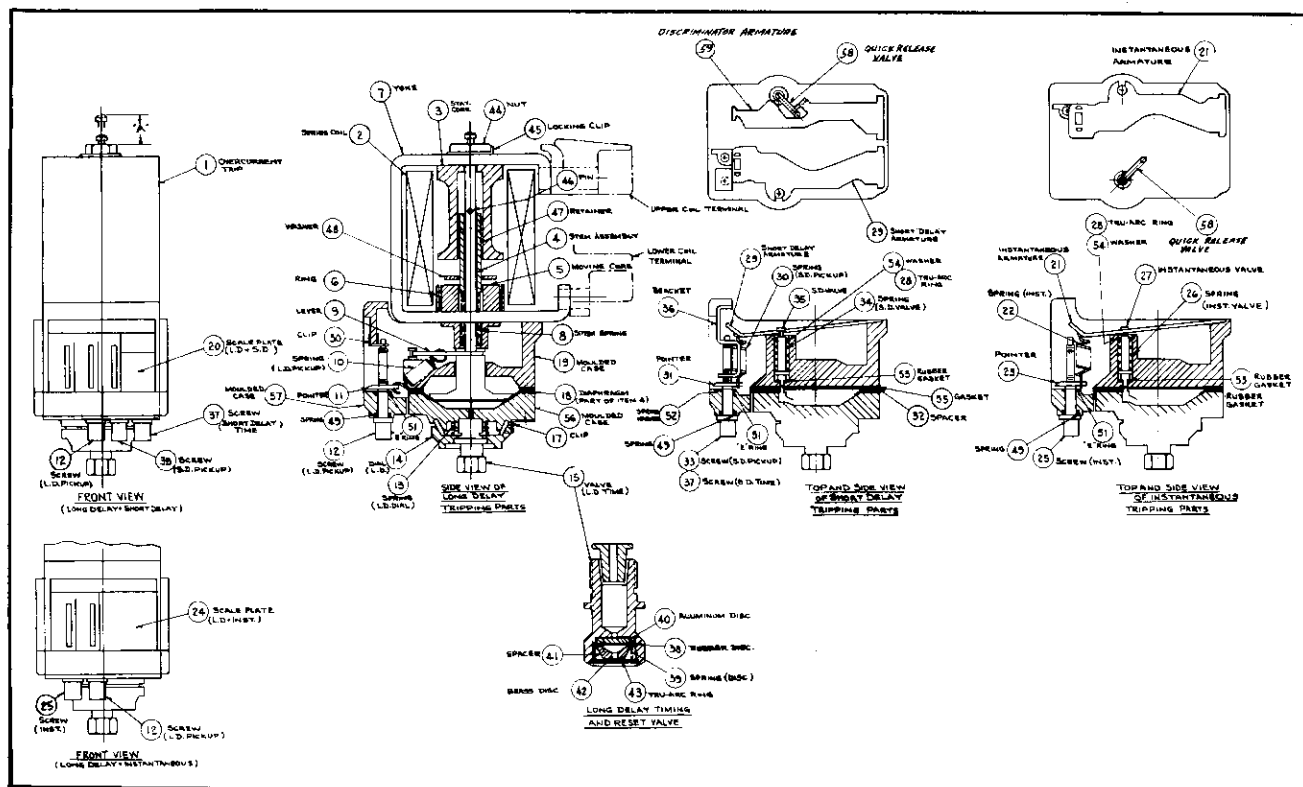
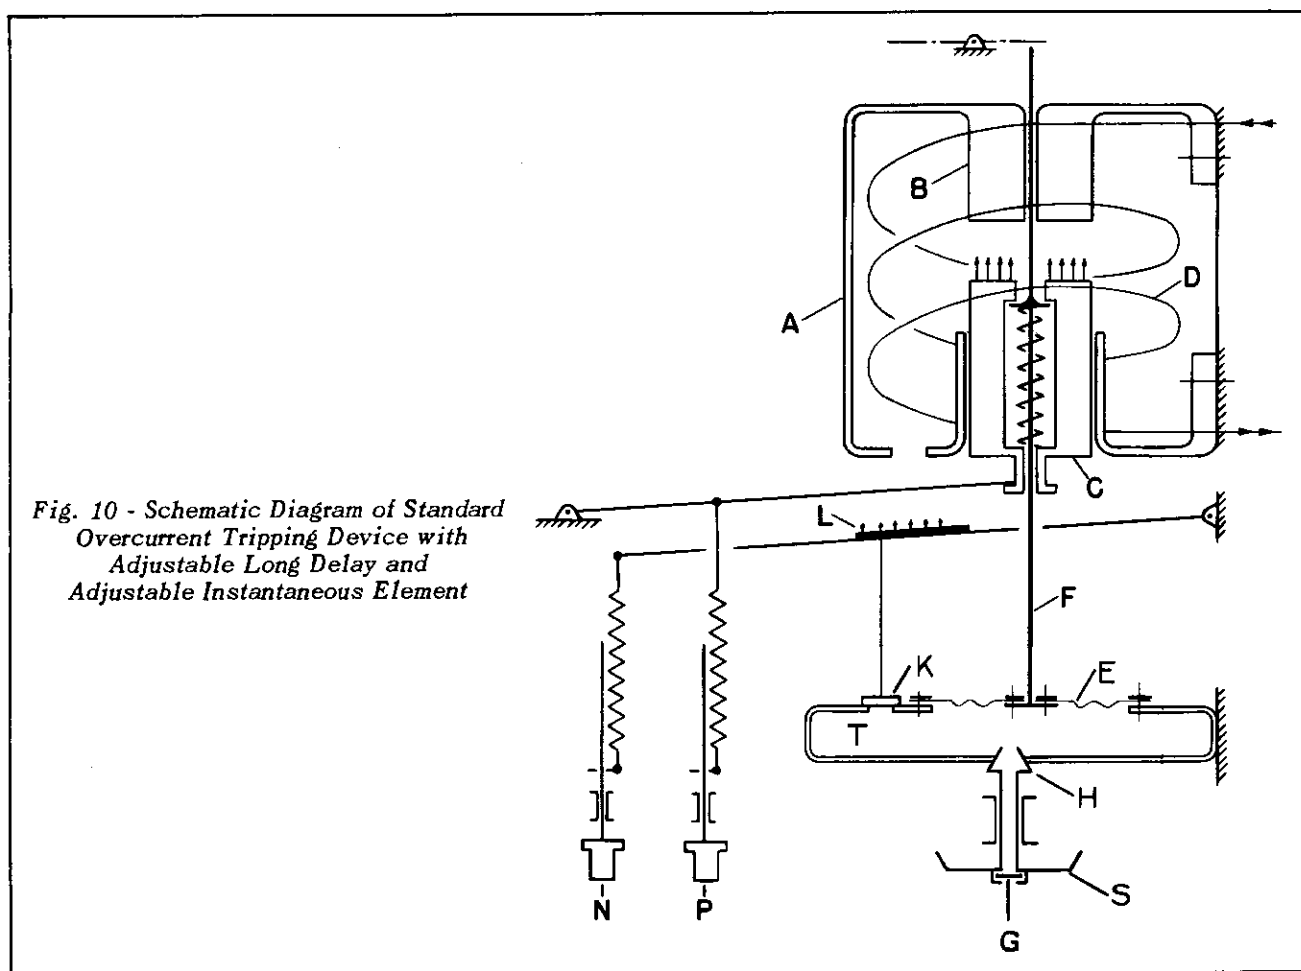
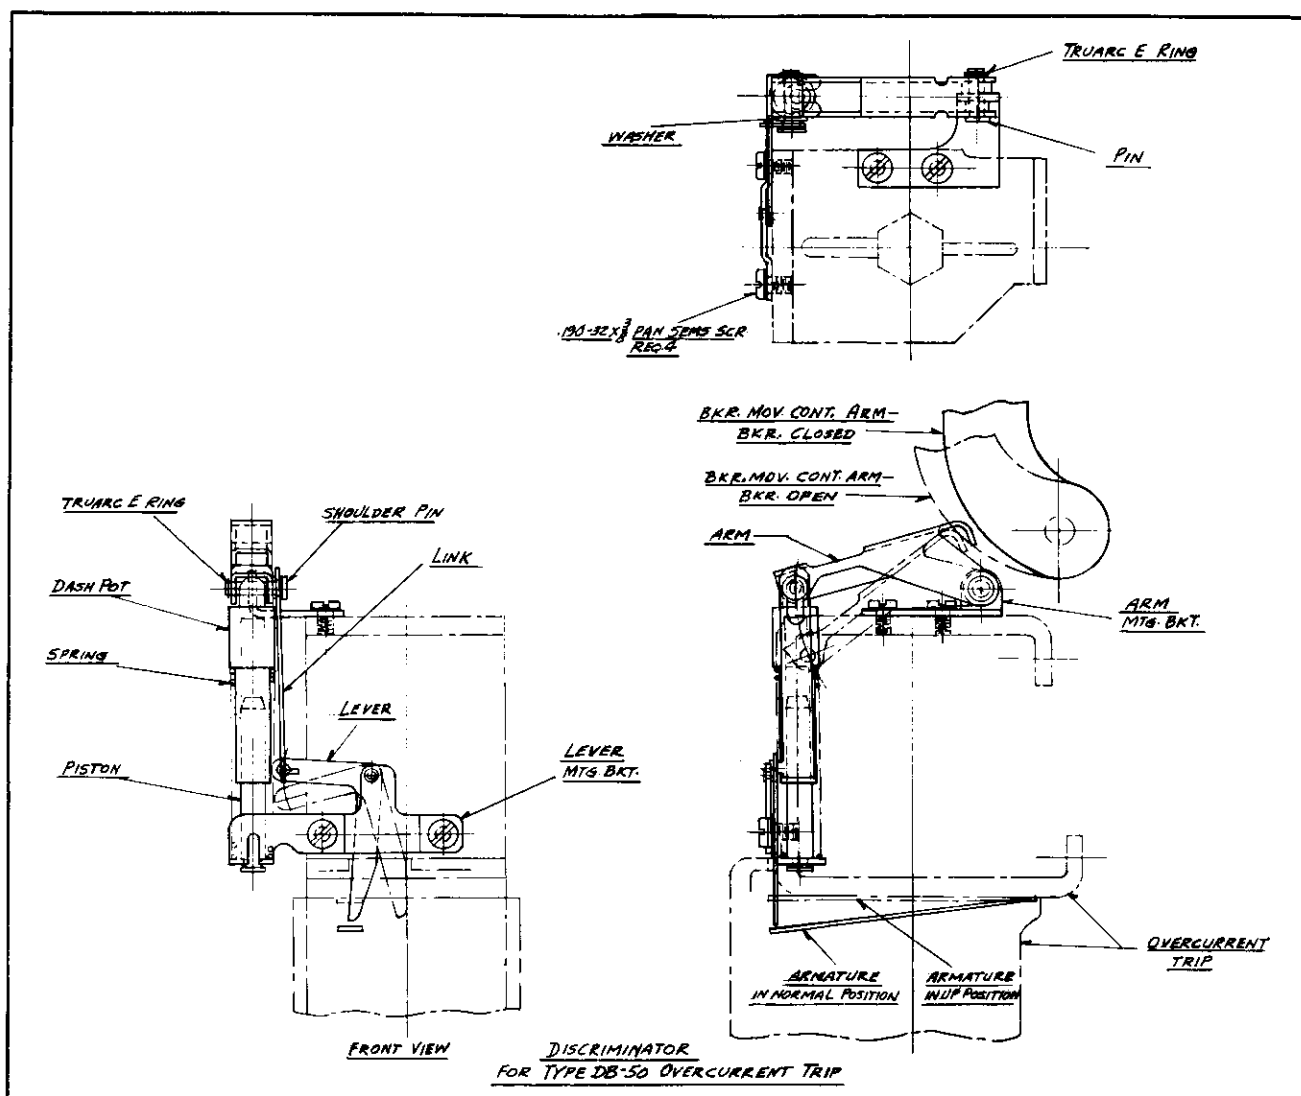

Fig. 6 - Cross-Sectional View of Series Overcurrent Tripping Device with Long Delay and Instantaneous Elements
Fig. 10 - Schematic Diagram of Standard Overcurrent Tripping Device with Adjustable Long Delay and Adjustable Instantaneous Element
Fig. 13 - Discriminator for Tripping Device
To manually check the overtravel refer to Fig. 6. The air delay device can be made inoperative by opening the instantaneous valve (or the short delay valve in the case of selective type tripping devices). The valve is opened by lifting the instantaneous (or short delay) armature. A slot is provided in the side of the molded case and a small rod approximately 1/16 diameter can be entered through the side of the case and used as a lever to lift the armature. After the valve is blocked open, the trip plunger
As seen from the sectional view Figure 6, the magnet frame and coil assembly consists of a yoke, a coil, a stationary and moving core together with their necessary insulation.
An overload or short circuit through the series coil D, Fig. 10, will cause the moving core C to be attracted and move toward the stationary core B. At low currents, the moving core C will carry the tripping stem F along with it, and the motion will be retarded by the diaphragm E. The rate of travel of the diaphragm is determined by the rate at which air is permitted to enter
chamber T by the various valves H and K. When the diaphragm has reached approximately 60 percent of its travel, a quick release valve (shown in Fig. 6) is mechanically opened. This quick release feature permits the full force of the magnet to be used for tripping the breaker after the timing cycle is completed. At higher currents when the attraction between the moving core C and the stationary core B is greater than the load on the spring inside of the moving core, the moving core will compress the spring and travel independently of the tripping stem F. This spring insures a constant force pattern acting on the diaphragm E. The reset valve is shown as G.
Valve H is the long delay valve and it is permanently open to a calibrated setting. This setting which controls the tripping time can be changed by means of dial S, Figure 10. The magnitude of current at which the
long delay will begin to operate is determined by the long delay pick-up adjusting knob P, Figure 10. The magnitude of current at which the instantaneous trip will operate is determined by the instantaneous pick-up adjusting knob N, Figure 10.
B. A quick release valve (shown in Fig. 6 - short delay tripping parts) which functions as described for dual overcurrent tripping device.
C. Discriminator armature, Fig. 6.
The discriminator operating linkage, Fig. 13 and the discriminator armature, Fig. 6 are used on the selective overcurrent tripping device to make the device behave as an instantaneous type tripping device while the breaker is being closed and for approximately 0.5 seconds after closing. During this period, the discriminator armature is free to lift the quick release valve and permit instantaneous tripping, if the current is greater than the discriminator armature pick-up setting. If the current does not rise above this value, the breaker remains closed and the discriminator linkage assumes a position which makes the discriminator armature inoperable and restores the selective tripping feature to the tripping device.
The long delay pick-up can be adjusted by means of P, Figure 10, also shown in Figure 6. The unit has been calibrated and the calibration plate marked at five settings, namely 80, 100, 120, 140 and 160 percent of the coil rating. The pick-up was placed on the 100 percent setting before shipment. A different setting can be obtained by carefully turning the adjusting knob with the help of a small screwdriver inserted in the slots for that purpose.
The long delay can be adjusted by means of the long time adjusting dial S, Figure 10, also shown in Figure 6. The dial adjustment is limited to slightly less than one turn. Two points have been calibrated at the factory and are indicated by white marks on the outer edge of the dial. The dial has markings from 1 to 10. When the higher-numbered white mark on the dial coincides with the white indicator on the front of the lower case, the tripping time will be the higher long delay value shown in seconds on the scale plate. Conversely, when the lower-numbered white mark on the dial coincides with the white indicator on the front of the lower case, the tripping time will be the lower long delay value shown in seconds on the scale plate. These tripping times are calibrated with currents which are 600 percent of the coil rating applied. The dial settings are scribed on the scale plate under long delay dial setting heading.
The instantaneous pick-up can be adjusted by means of knob N, Figure 10, also shown in Figure 6. The instantaneous pick-up has been calibrated at 8 and 12 times or 5 and 10 times the coil rating at the factory. The adjusting knob can be turned carefully with the help of a small screwdriver inserted in the slots for that purpose, if a different setting is desired.